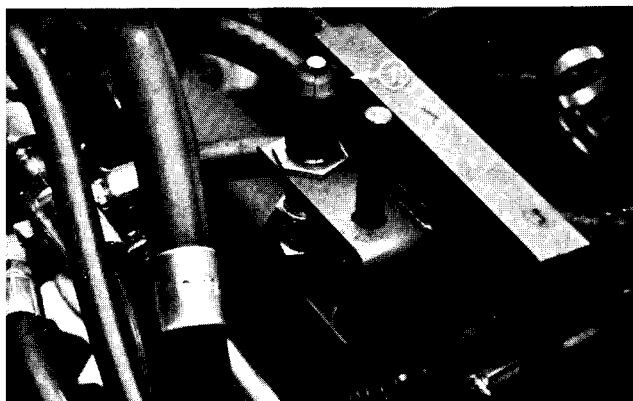

Figure 7
1. Disconnect the seat switch wire connector and install a continuity tester or ohm meter between the two leads of the seat switch (Fig. 7).
The seat switch (Fig. 7) is a normally open (NO) switch. With no operator on the seat there is an open circuit to the time delay (capacitor) and relay coil. If the mow switch or traction switch is open with no operator on the seat the engine will stop after a delay of approximately 2 seconds.